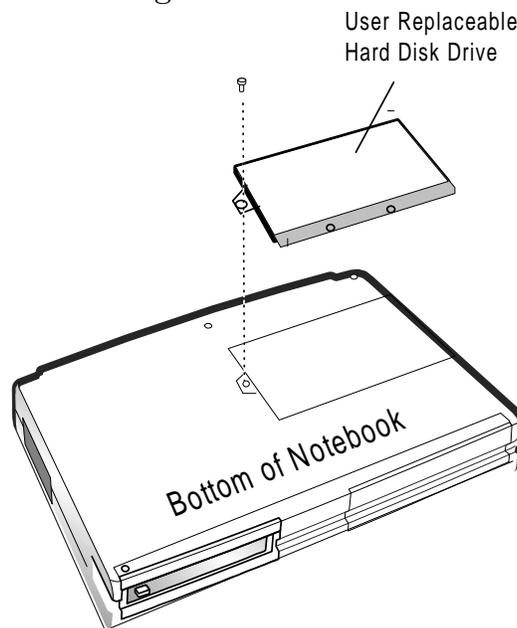

Figure 6-6 Hard Disk Drive Removal/Replacement
3. Turn the computer over and remove the Phillips head screw securing the drive to the plastics as shown in Figure 6-6.